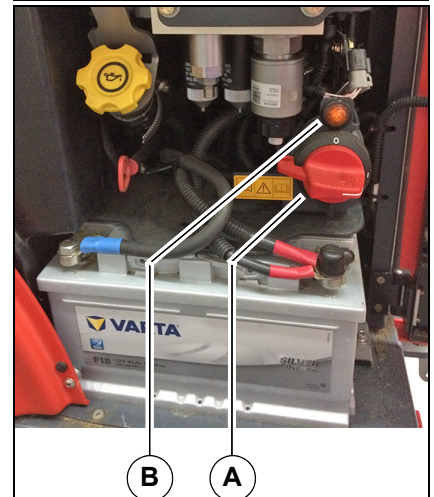

Fig. 116:
The battery isolation switch **Fig. 116-A** is behind the left side door. If the vehicle is parked for a longer period of time, the battery may self-discharge. For this case:
1. Switch off the vehicle with the ignition switch. The indicator light **Fig. 116-B** goes off after about 30 seconds.
The battery isolation switch may not be switched off if the indicator light **Fig. 116-B** is on!